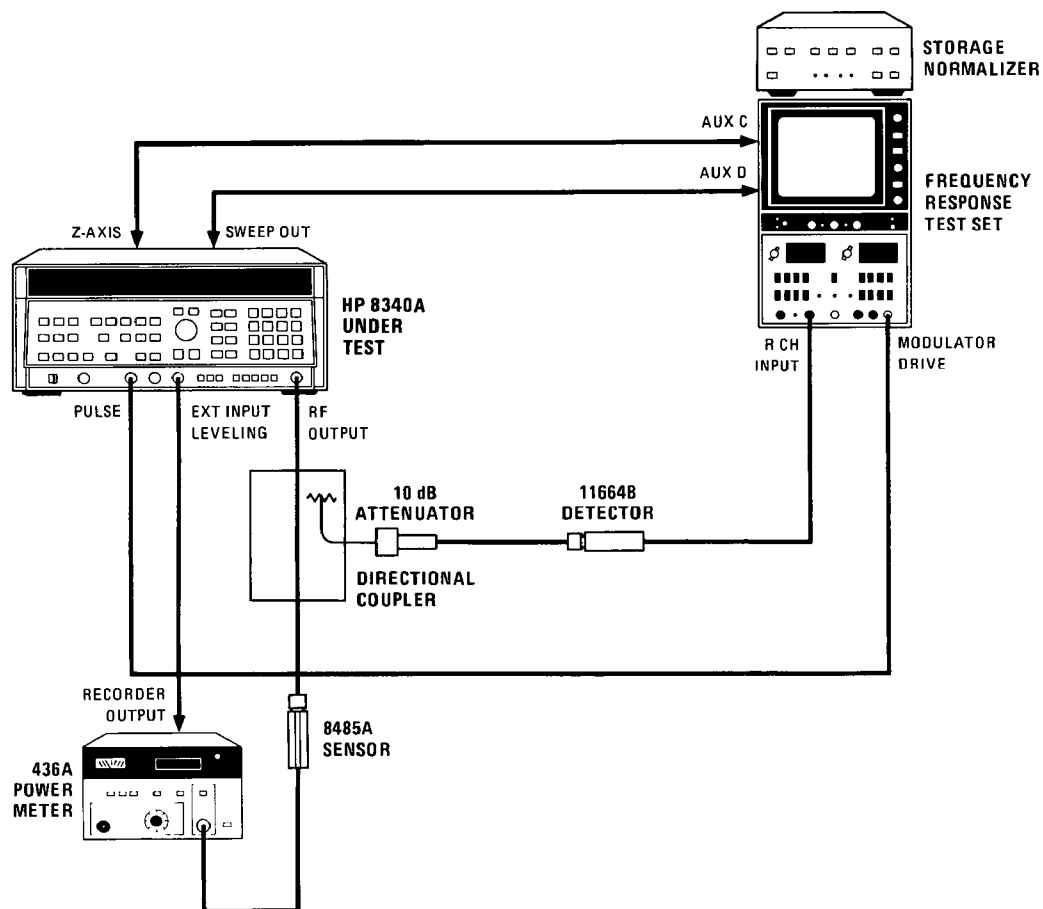

Figure 5-60. Flatness Adjustment Equipment Test Setup.
15. Connect the equipment as shown in Figure 5-60. Press 8340A [CW] and enter [5] [GHz]. Press [RF] to turn RF power off. Zero the power meter. Press [RF] to turn RF power on. The power level should be 0 dBm. Press the 436A [RANGE HOLD].